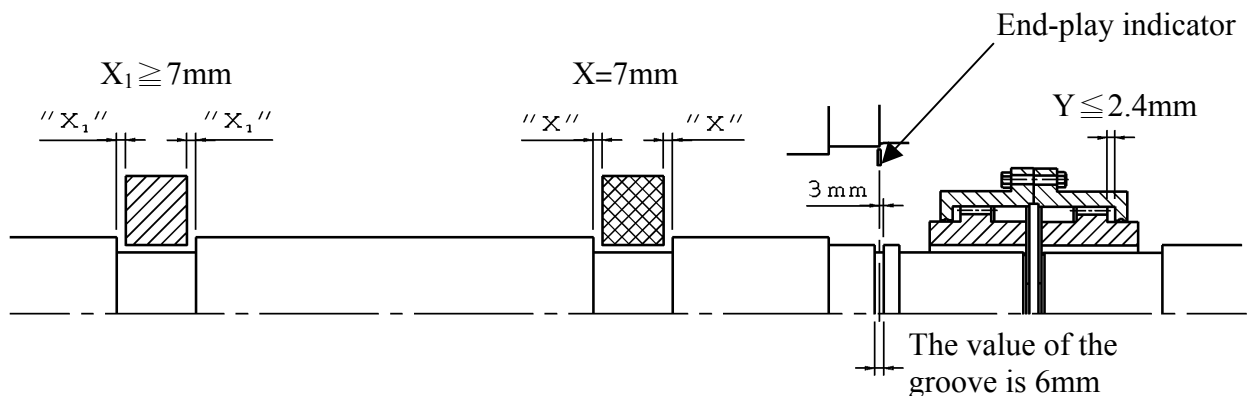

Fig. 6
- Unless otherwise specified, the designed end-play value X of the groove for TECO motors in general is within 7mm as illustrated in Fig. 6. In essence, the end-play indicator is adjusted to point at the center of the groove or the drive-end shaft shoulder; thus X equals to $7 \pm 1\text{mm}$ or so, and the end-play value (Y) of the couplings should equal or be smaller than 2.4mm.